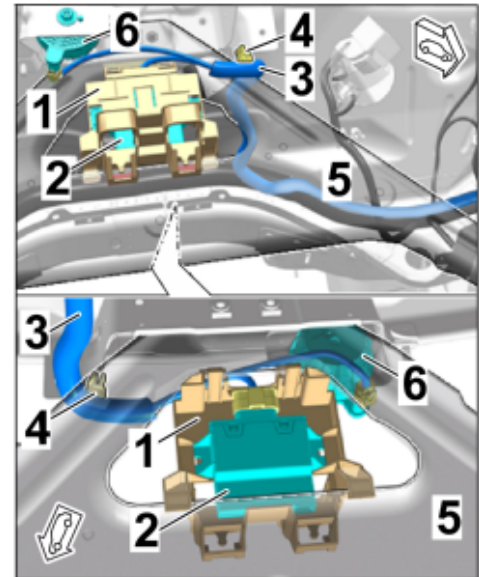

Figure 10
- 2.2 Disconnect plug connection for the standard engine noise control unit and remove engine noise control unit with holder. ⇒ *Figure 10*